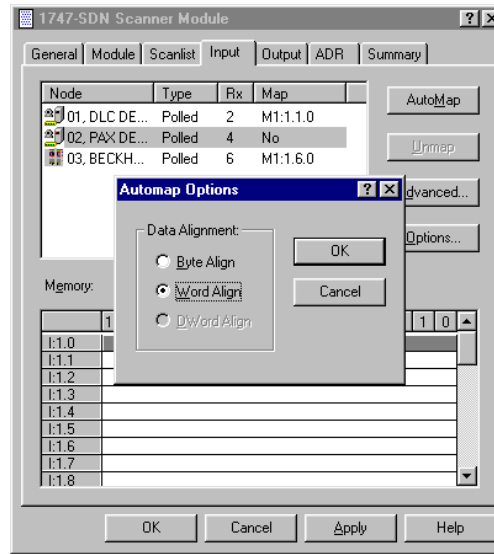

Figure 7
3. Select the Options key and choose the type of alignment you want to use. (Fig. 7) Note: This only effects the mapping when more than one node is automapped.